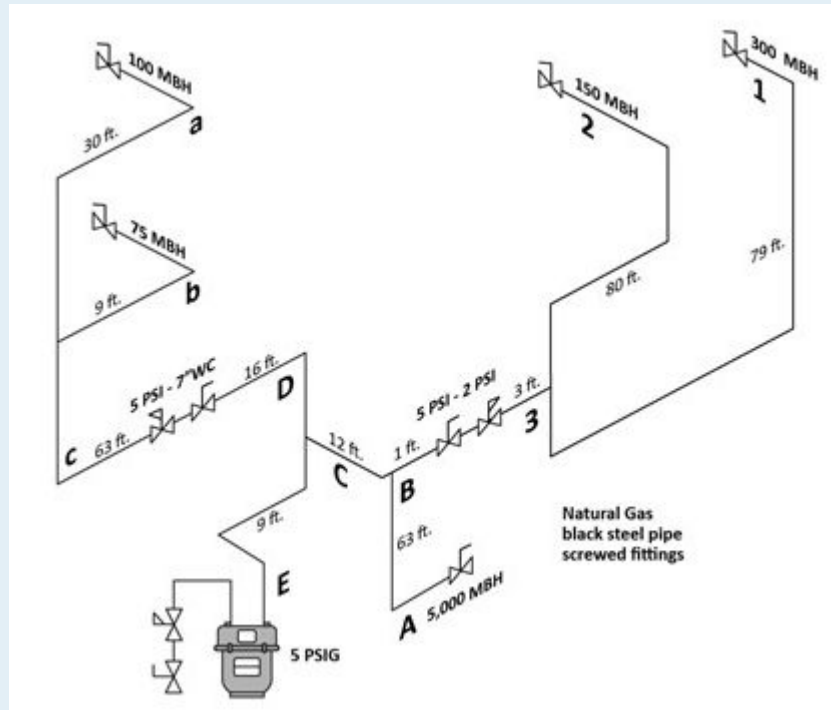

Figure 4
3. Size the drawing in Figure 4 and show all calculations.
- Figure 4 by Camosun College is licensed under a CC BY 4.0 licence.